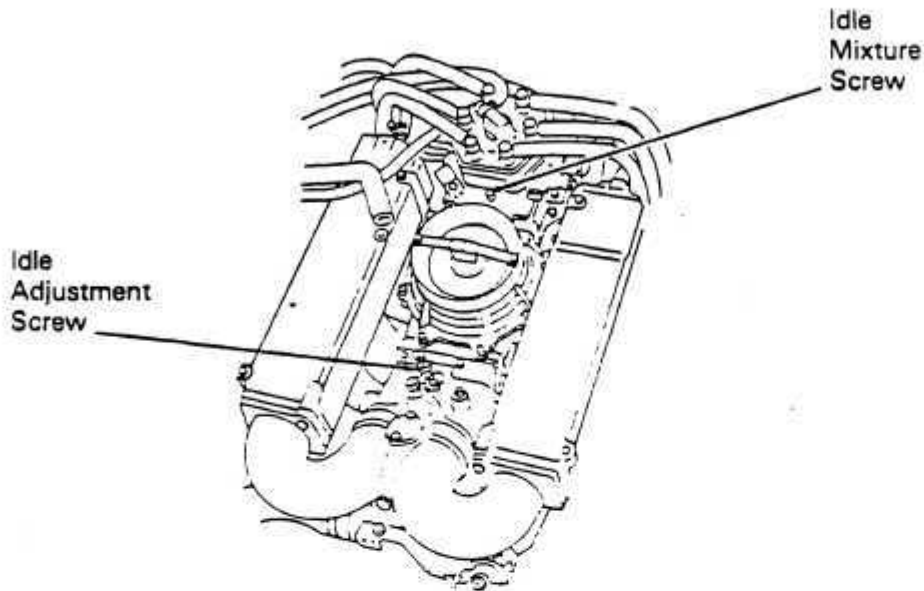

Fig. 19.
13. With both taps on the T-piece of the sample hose open, and the plastic cap or fingertip blocking the hole for fuel adjustment, check that the idle CO level is 1% ± 0.3%. If not reset the fuel by removing the plastic cap or finger tip and turning the mixture screw (2) in the flap valve clockwise to increase the CO (richer) and anti-clockwise to reduce CO (leaner). Replace the plastic bung, reset the engine speed to 950 RPM rev the engine for a few seconds to 2000 RPM and check CO level when idle speed returns to 950 RPM. If outside the limits repeat the procedure until specification is met. Fig. 19.